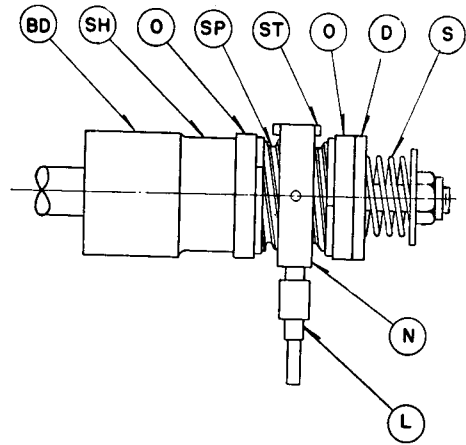

FIG. 2—ROTATING ASSEMBLY
The rotating assembly is pictured in Figs. 2 and 3. The switch shaft SH is keyed to the motor shaft. The spool assembly SP consists of a threaded portion with a notched end-piece and an oilite friction disc O on each end. This spool is free to spin on shaft SH. The stainless steel friction disc D has a tongue which engages a keyway in the extension of shaft SH so disc D rotates with SH.
(a) Place a drop or two of lubricating oil on the friction faces of the two oilite friction discs (O - Figs. 2 and 3). Use a high quality mineral oil. Grade SAE-10 is recommended.
SECTION OF FIG. 2
5. Is compression spring (S in Fig. 2) exerting sufficient pressure? The friction drive should be firm enough so the switch will act positively when the shaft is rotated by hand.